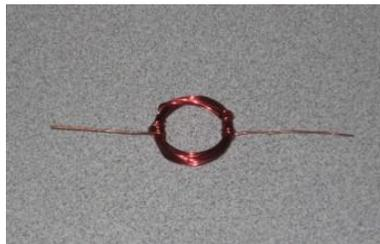

Figure 3: Wire wrapped into a coil. Loops on both sides of the coil keep it from expanding.
4. Remove the coil from the beaker and make it into a compact circle. Use the extended wire to tightly loop around the coils a few times to keep it from expanding (Figure 3).